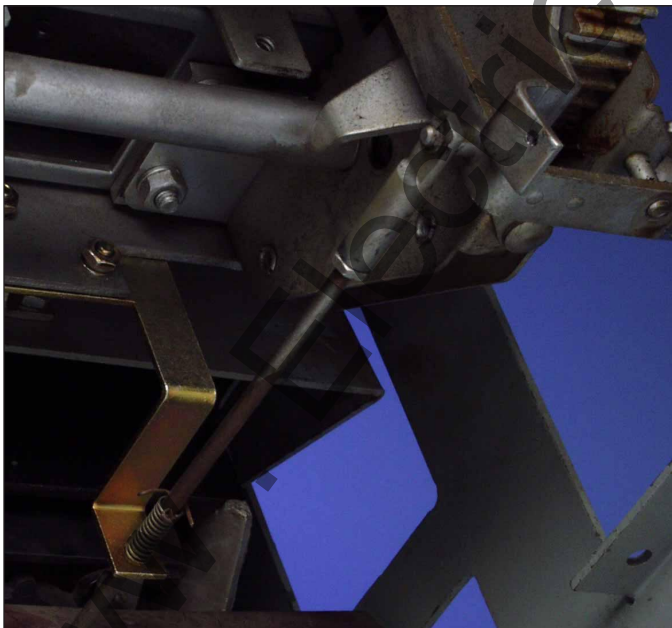

Fig. 7 Installing the Trip Rod Guide
- A. Align the new Trip Rod Guide with the Trip Rod and the existing holes in the middle Breaker Shelf, as shown in Fig. 7.
- B. Secure the Trip Rod Guide to the middle Breaker Shelf using the (2) .190-32 x .500" screws, (4) flat washers, (2) lock washers, and (2) nuts supplied.